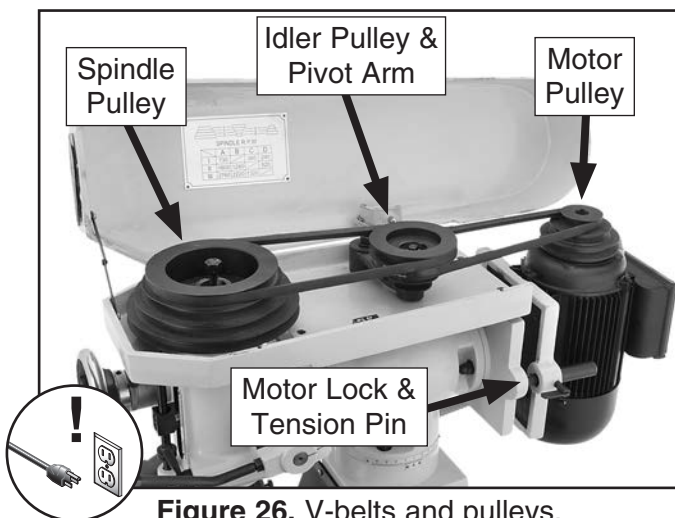

Figure 26. V-belts and pulleys.
3. Support the motor with one hand and loosen the motor lock shown in **Figure 26**.